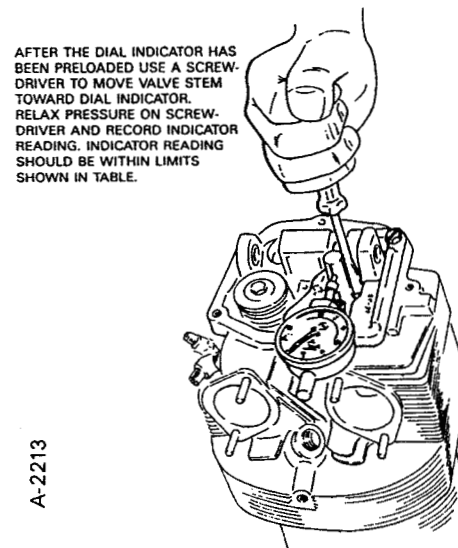

Figure 10. Pushing Valve Stem And Adapter Post Toward Dial Indicator to Establish Valve Guide Condition
5. Insert the screwdriver between the fixture and valve spring on the opposite side and push the valve spring toward the dial indicator as shown in Figure 10. Relax the screwdriver and record the reading on the dial indicator. The measurement should be within the limits specified in the table with PART 1. If not, perform the required repair procedure as described in PART 1.